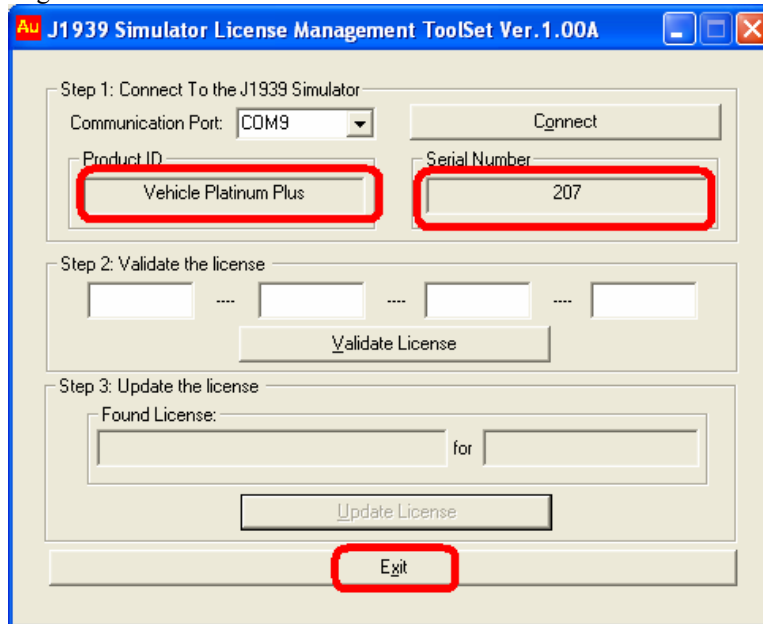

Figure B-14 Product updated to Engine premium successfully
- When it is updated successfully, a beep will be heard. And Au J1939 Simulator License Toolset will show the new license (Engine premium in this demonstration), it means your product has been upgraded to engine premium edition successfully, click “Exit”, as shown in Figure B-14.